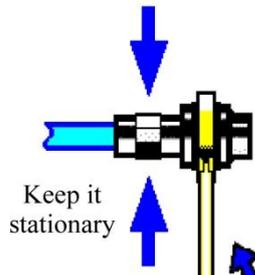

Fig. 3.6 Final Connection with Torque Wrench
**Step 3:** as shown in Fig. 3.6, complete the final connection by tightening with the torque wrench. Note that the torque wrench must not be beyond the initial break point. Use the auxiliary wrench to prevent the connectors from rotation.